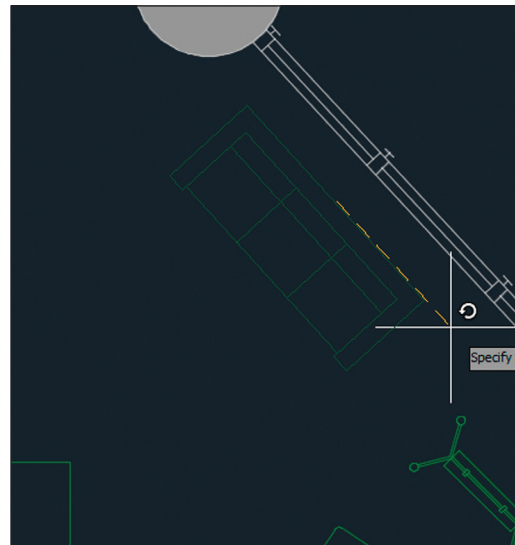

FIGURE 9.9 Inserting the new sofa
5. Click approximately where you deleted the armchairs and side table to insert a Sofa2 block reference in the drawing and estimate the rotation angle so that the sofa is parallel to the exterior wall (see Figure 9.9).